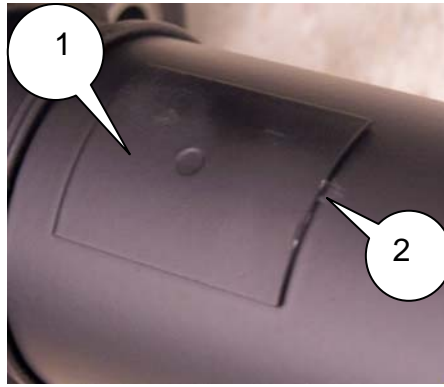

Figure 5
7. If the weight is firmly attached, touch up the weight with flat black paint as necessary (Fig 5). The inspection process is complete and it **WILL NOT** be necessary to replace the propeller shaft.